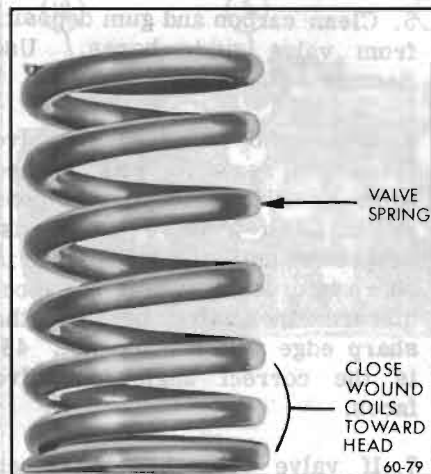

Figure 60-218—Valve Spring
13. Remove installation cap and reinstall valve springs, cap and cap retainer, using same equipment used for removal. Install valve spring with closely wound coil toward the cylinder head. See Figure 60-218.